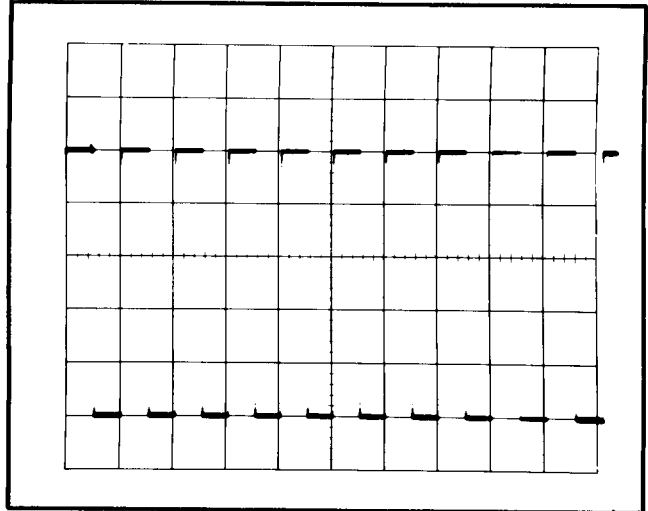

Fig. 5-4. Typical waveform showing GAIN control R435 correctly adjusted.
- f. ADJUST—The GAIN control, R435, front-panel adjustment, for exactly 5 divisions of display amplitude (See Fig. 5-4).